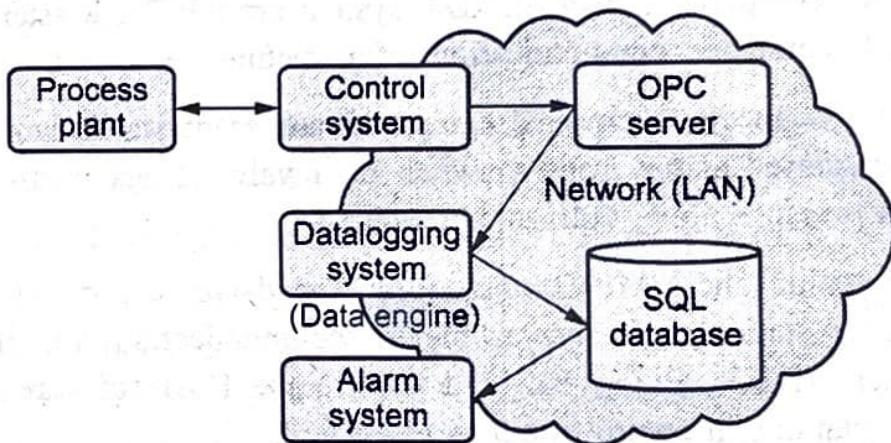

Fig. Q.16.1 Block diagram of SCADA
- These modules are typically separate modules because they should be able to run on different computers in a network (distributed). Fig. Q.16.1 shows block diagram of SCADA.